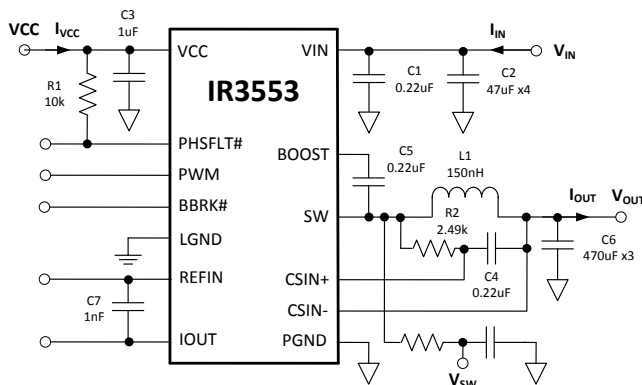

Figure 32: IR3553 Power Loss Measurement
Circuit of Figure 32,  $V_{IN}=12V$ ,  $V_{OUT}=1.2V$ ,  $f_{SW} = 400kHz$ ,  $L=150nH$  (0.29mΩ),  $VCC=7V$ ,  $T_{AMBIENT} = 25^{\circ}C$ , no heat sink, no air flow, 8-layer PCB board of 3.7" (L) x 2.6" (W), no PWM controller loss, no inductor loss, unless specified otherwise.
Circuit of Figure 32,  $V_{IN}=12V$ ,  $V_{OUT}=1.2V$ ,  $f_{SW} = 400kHz$ ,  $L=150nH$  (0.29mΩ),  $V_{CC}=7V$ ,  $T_{AMBIENT} = 25^{\circ}C$ , no heat sink, no air flow, 8-layer PCB board of 3.7" (L) x 2.6" (W), no PWM controller loss, no inductor loss, unless specified otherwise.
The single-phase IR3553 efficiency and power loss measurement circuit is shown in Figure 32.